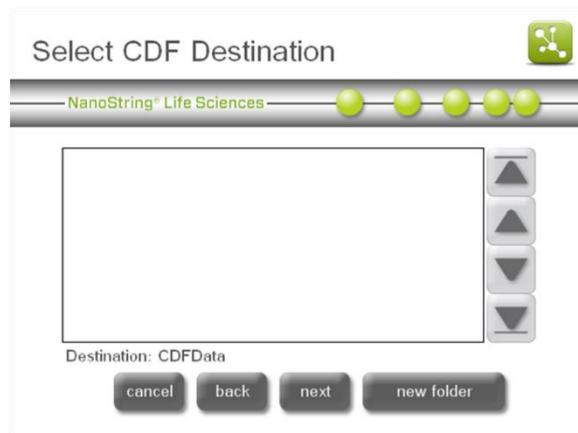

Figure 65: The ‘Select CDF Destination’ screen.
5. The ‘Select CDF Destination’ screen will appear (**Figure 65**). Browse to the folder location on the analyzer where the CDF should be saved. Press **save**.